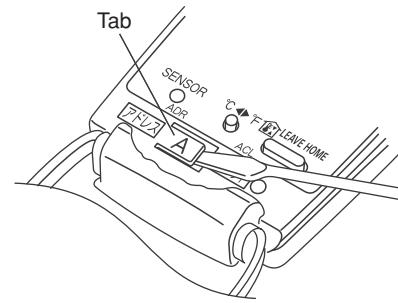
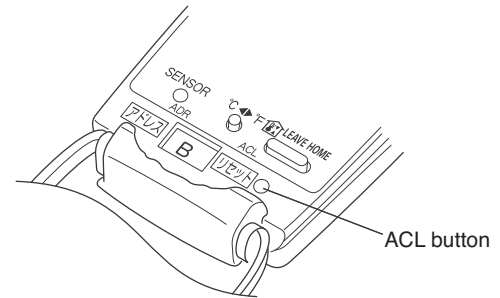
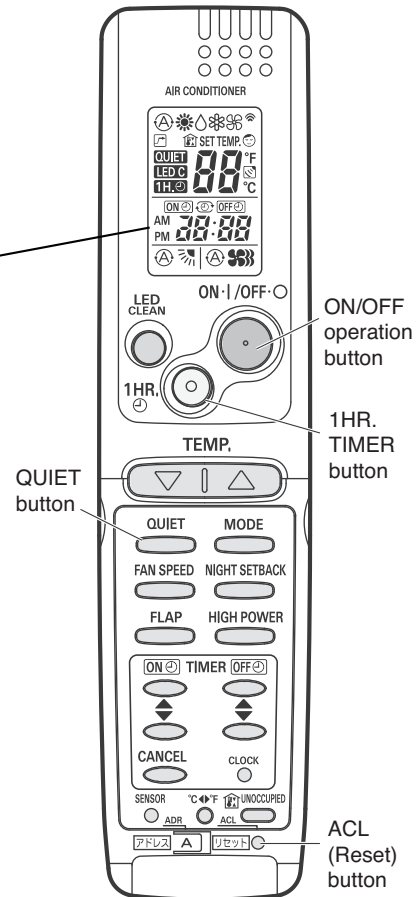

Fig. 62
Fig. 63
Fig. 64
- (1) Switch on the power source.
- (2) Break the address-setting tab marked "A" on the second remote controller to change the address (Fig. 62). When the tab is removed, the address is automatically set to B (Fig. 63).
- (3) Press and hold the remote controller QUIET button and 1HR. TIMER button. Then press and hold the ACL (Reset) button with a pointed object such as the tip of a pen. After 5 seconds, release the ACL button first, then release the QUIET and 1HR. TIMER buttons. "oP-1" (Test Run) appears, blinking in the remote controller clock display area.
- (4) Each time the 1HR. TIMER button is pressed, the display changes as shown below. Press this button 3 times to change the display to "oP-7" (Address setting).
- (5) "oP-7" has now been selected for address setting.
- (6) Press the ON/OFF operation button on the remote controller. (Fig. 64) Check that the "beep" signal-received sound is heard from the second indoor unit (approximately 5 times). The sound you hear is the signal that the remote controller address has been changed.
- (7) Finally press the remote controller ACL (Reset) button to cancel the blinking "oP-7" display. (Fig. 64)